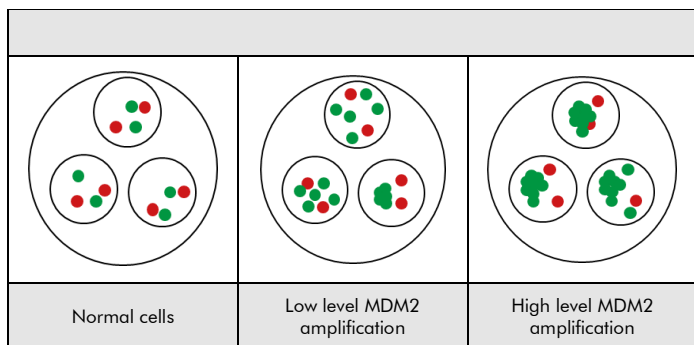

Fig. 2: Expected results in normal and aberrant nuclei
**Normal situation:** In interphases of normal cells or cells without an amplification involving the MDM2 gene region, two distinct dot-shaped green and two distinct dot-shaped red signals appear (see Fig. 2).
**Aberrant situation:** In cells with an amplification of the MDM2 gene region, an increased number of green signals or green signal clusters will be observed (see Fig. 2).